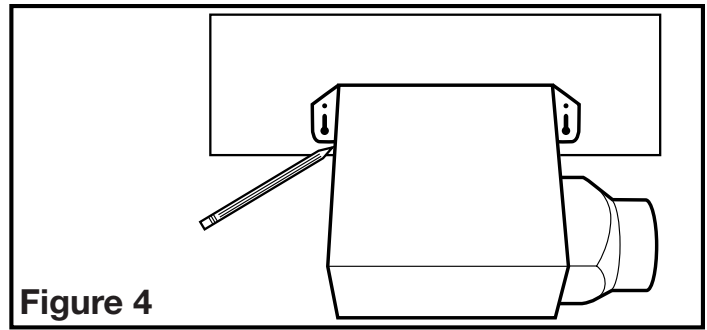

Figure 4
1. Position housing against the joist or stud and trace an outline of the housing onto the ceiling/wall material (**Figure 4**). Set housing aside and cut opening, being careful not to cut or damage any electrical or other hidden utilities. Place housing next to the joist or stud and insure that it is flush with the finished ceiling. Secure with four nails (not provided) to ensure proper installation (**Figure 3**).